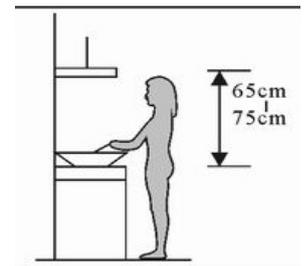

Fig. 02
1. The rangehood should be placed at a distance of 65-75cm (26-30inch) from the cooking surface for the best effect (Fig. 02).